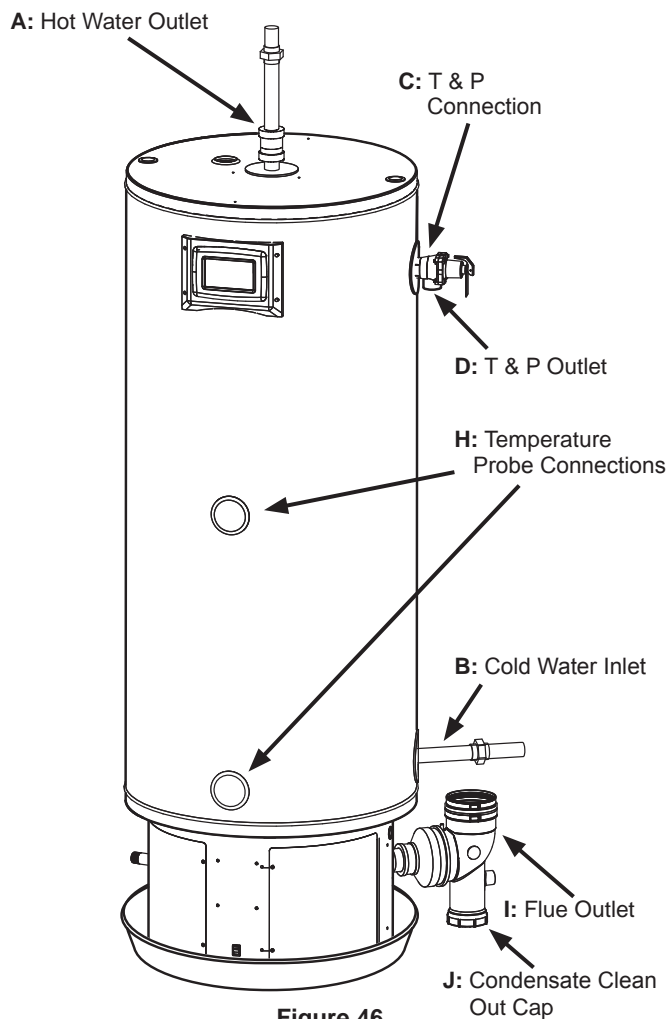

Figure 46
- E. Water from a drain valve may be due to the valve being slightly opened. (Not shown in Figure 46).
- F. \*The drain valve may be leaking at the tank fitting. (Not shown in Figure 46).
- G. Leakage from recirculation plug or pipe connection. (Not shown in Figure 46).